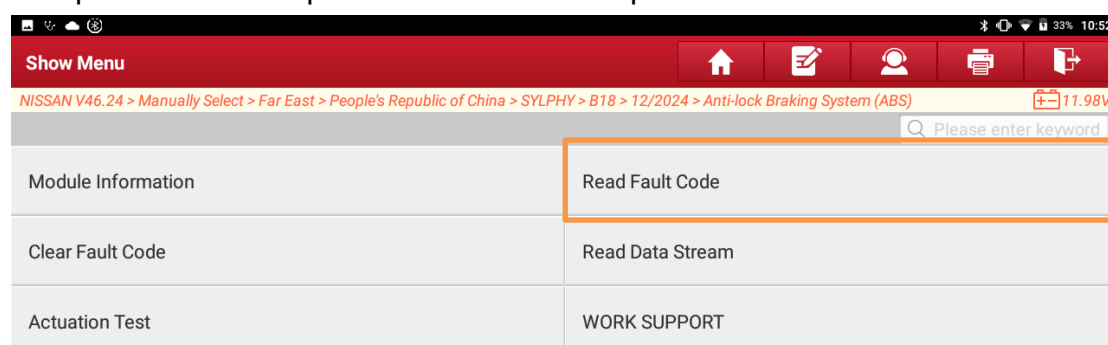
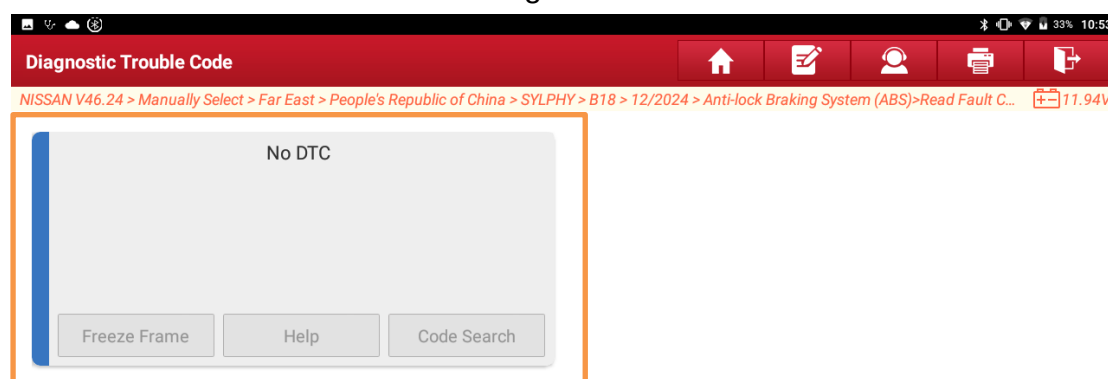

Figure 16
Figure 17
- On the ABS menu interface, click [Read Fault Code] (Figure 16) to read the ABS DTC information. No DTC is displayed (Figure 17), indicating that the deceleration G sensor calibration function is executed successfully. The special function operations are now completed.